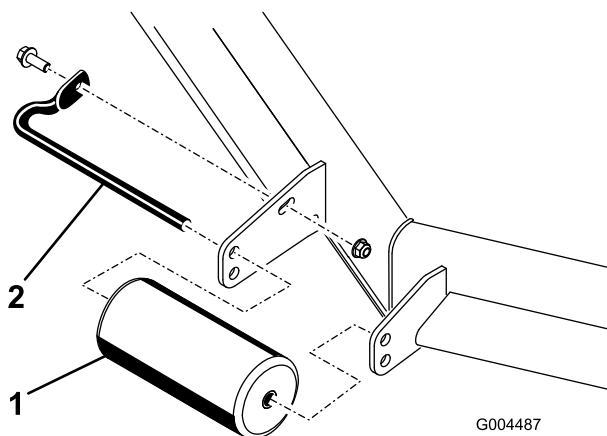

Figure 47
4. Remove the fasteners securing each roller on your mower deck, and move the rollers up or down as desired; refer to Figure 47 through Figure 51 as applicable for your mower.
5. Install the fasteners as illustrated in Figure 47 through Figure 51.